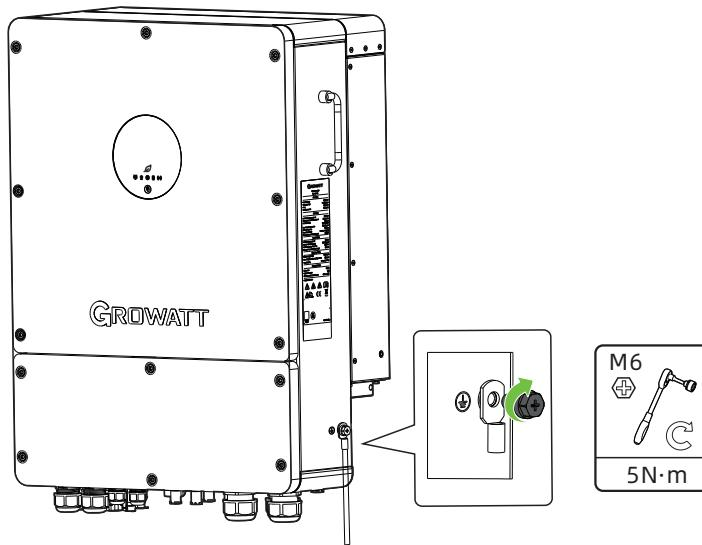

Fig 6.8 Protective earthing position
- 4) The position of the ground points of the WIT 4-25K-XHU Hybrid Inverter is shown in Fig 6.8.